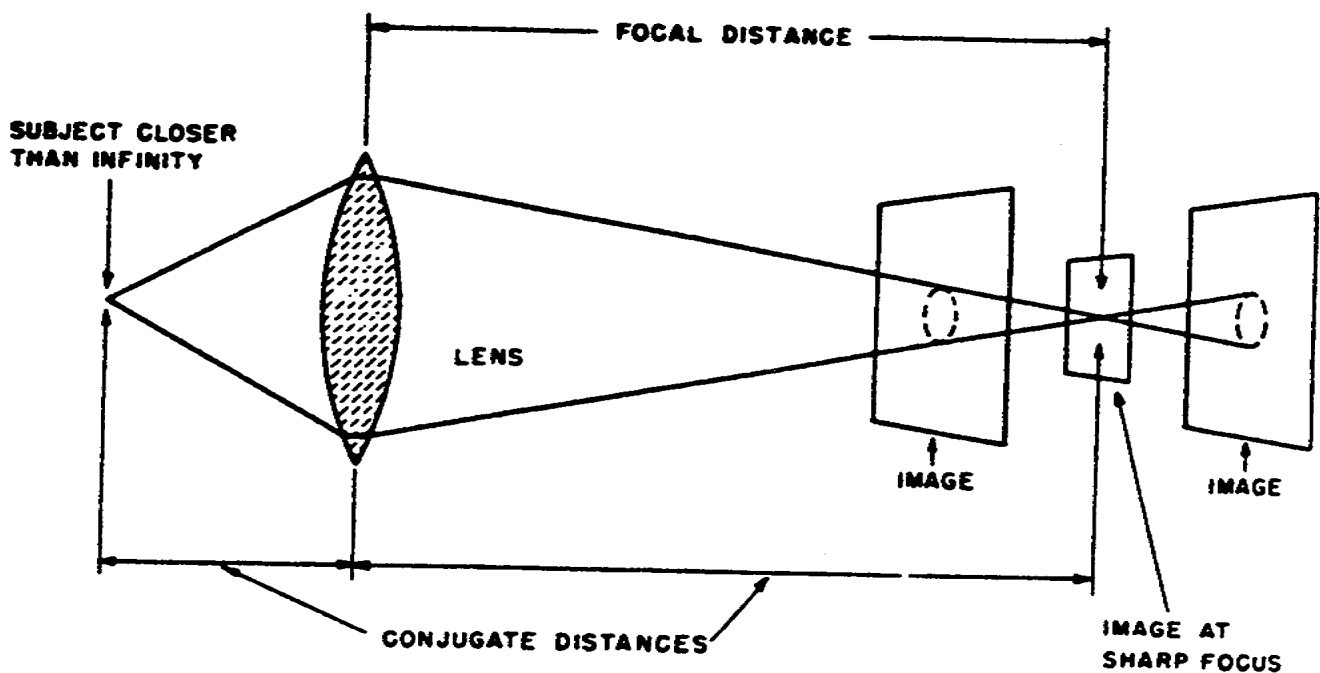

Figure 2-20. Conjugate distance.
a. The distance between a subject and a photographic lens varies inversely with the distance from the lens to the focal plane. These distances are called conjugate distance; that is, the total distance from the subject to the focal plane, (fig 2-20).